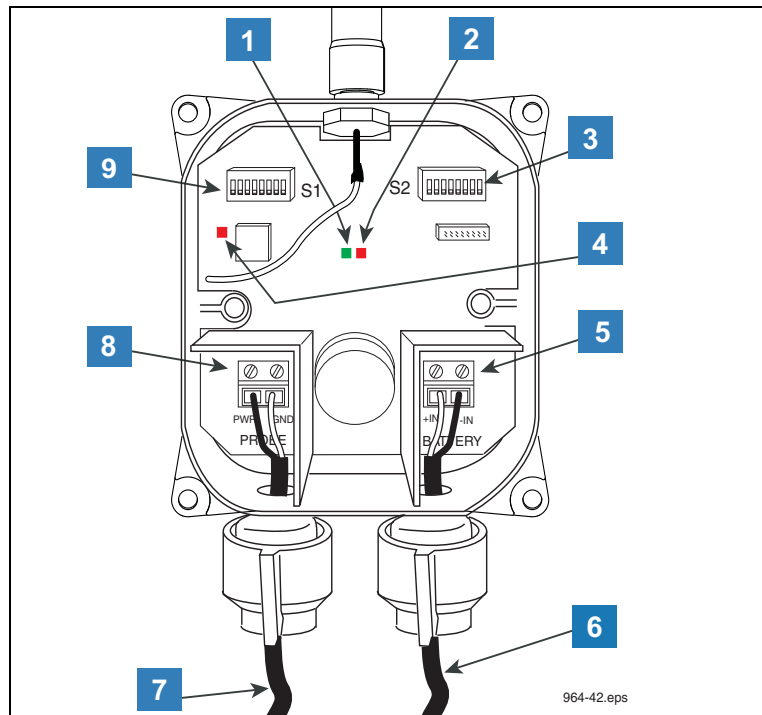

Figure 21. Wiring The Transmitter
5. All probe/sensor cables connect to the PROBE terminal block the SAME WAY - the white wire to the PWR terminal and the black wire to the GND terminal as shown in Figure 21.
8. Connect power cable wires to the BATTERY terminal block placing the white wire in the +IN terminal and the black wire in the -IN terminal as shown in Figure 21.
**LEGEND FOR NUMBERED BOXES IN Figure 21**